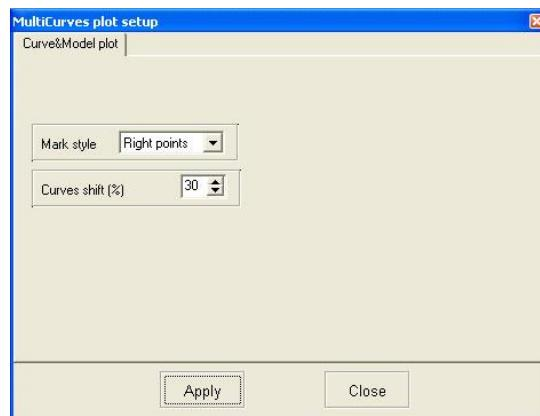

Fig. 21 Curve parameters setup dialog
Option *Setup* runs curve parameters setup dialog (fig.21).
**MultiCurves Plot Setup** option (fig.21) runs curve parameters setup dialog described above.